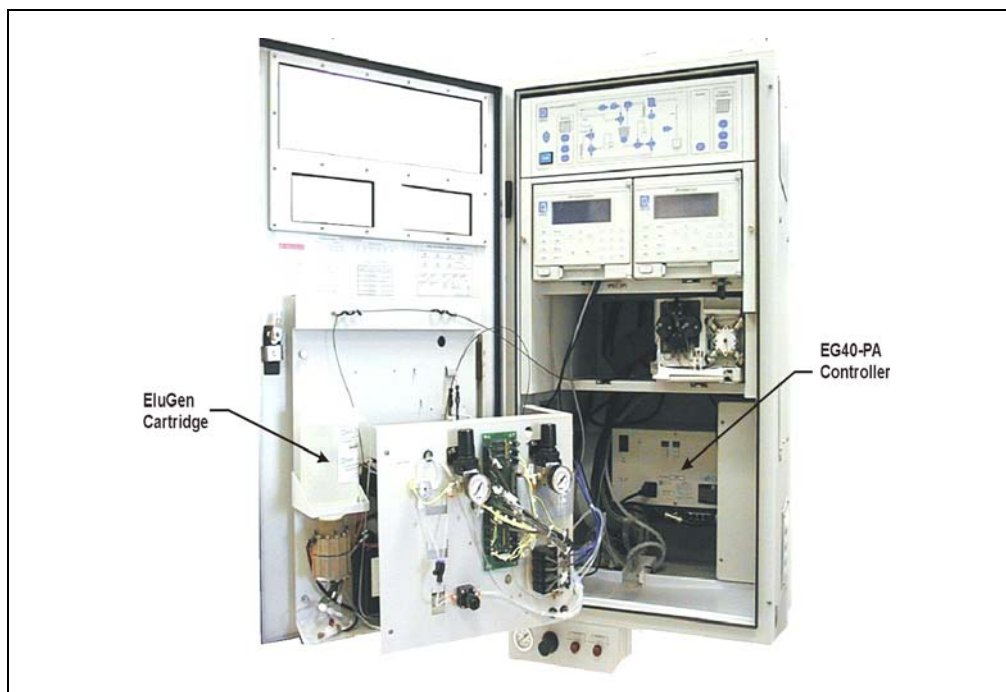

Figure 6-2. DX-800 with EG40-PA Installed
- The disposable EluGen cartridge is mounted on the LC80 Liquid Chromatography Panel (see Figure 6-2).
- An EG40-PA controller is installed inside the AE80, at the lower rear of the enclosure (see Figure 6-2). The main power switch for the eluent generator is on the controller. The power LED is illuminated when the power is on. Refer to the eluent generator manual for details about other LEDs on the controller.